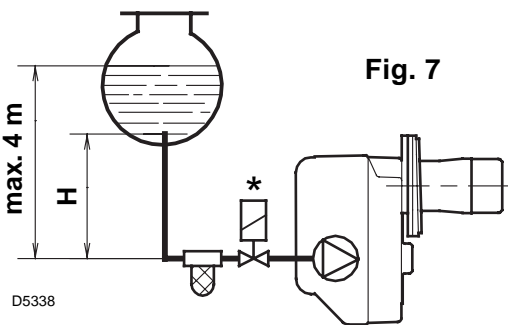
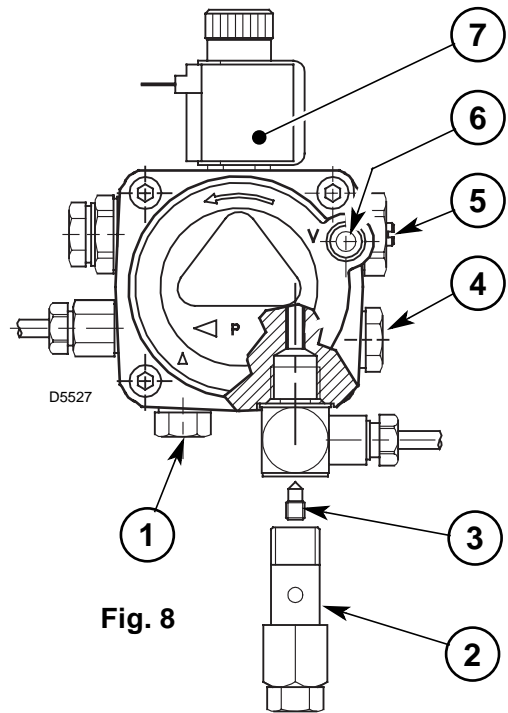

Fig. 7
Fig. 8
In order to obtain one pipe working it is necessary to unscrew the pin (2), remove the by-pass screw (3) and then screw again the pin (2), (see fig. 8).
On the system in fig. 7 it is sufficient to loosen the suction gauge connection (6, fig. 8) and wait until oil flows out.
The pressure gauge must be mounted in place of plug (4, fig. 8, page 4).